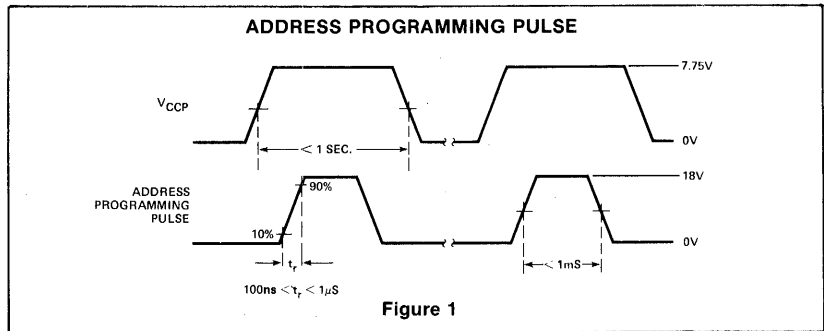

Figure 1
3. After VCC has stabilized, apply a single programming pulse to the user data bus bit where a low-level match is desired. The voltage should be limited to 18V; the current should be limited to 75mA. Apply the pulse as shown in Figure 1.
The 8T39 Bus Expander is designed to be used with the 8X300 microprocessor to allow increased I/O capability in those systems previously limited by fanout considerations. Figure 1 shows a typical arrangement of the bus expander in an 8X300 system. Each expander services I/O ports whose address is within the range of the expander. Other I/O ports or working storage may be directly connected to the bus as shown.